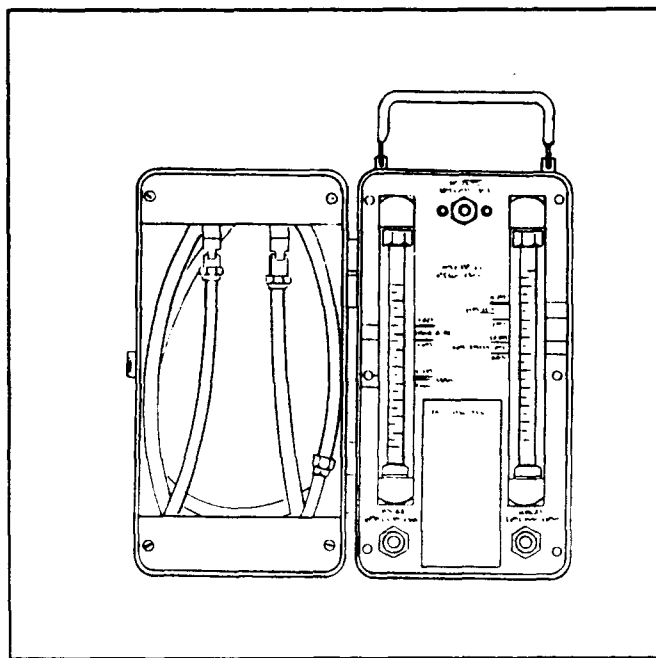

Figure 5-5. Meter, Dual Efficiency
h. Vacuum Efficiency Test Procedure (See Figure 5-5). The use of the Dual Efficiency Meter is recommended, if available, in lieu of the portable vacuum gage for determining the efficiency of the tank vacuum. For basic procedures for the Dual Efficiency Meter refer to T.O. 37C2-8-27-11.